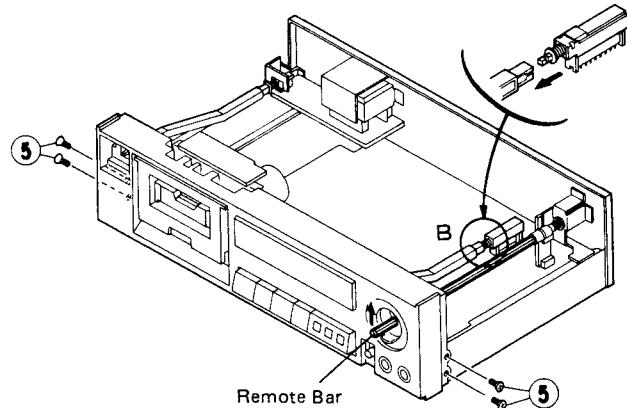

Fig. 2-3
- 8) Push the INPUT VOLUME remote shaft upwards to make it free from engagement (see Fig. 2-3).
- 9) The CD DIRECT switch remote bar can be removed at the position B shown in the figure (see Fig. 2-3).